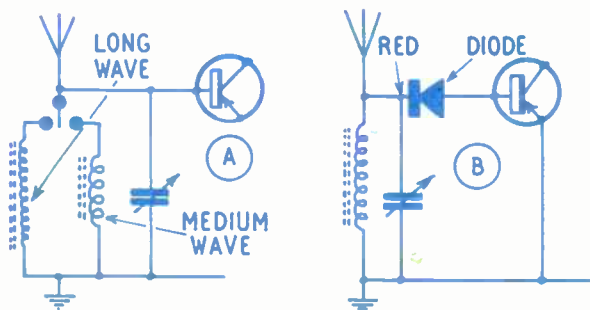

Fig. 3—For dual-wave or diode detector
If Long Waves are also required, a similar L.W. coil can be added, and brought into circuit by means of a 2-way switch, as shown at (A) in Fig. 3. The switch can be made by pivoting a small
If a Red Spot or other audio-frequency amplifier type transistor is to hand, instead of the White Spot, similar results will be obtained if a crystal diode is added for detection, as shown at (B) in Fig. 3. Negative on the diode goes to the transistor Base, and positive to aerial. All other connections remain unchanged. The addition of a diode does not improve results if the first transistor is of radiofrequency type.